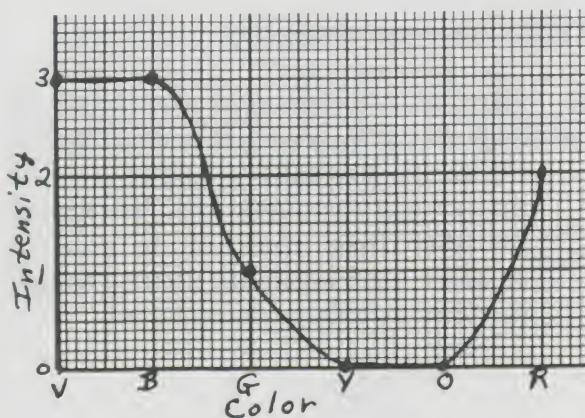

Figure 11. A sample transmission spectrum. The colors are violet, blue, green, yellow, orange, and red.
3. Record your results on a graph like Figure 11.
6. Explore the transmission spectra of some of the other filters. See if you can find the filter which produces the spectrum given in Figure 11. Also try combinations of filters.